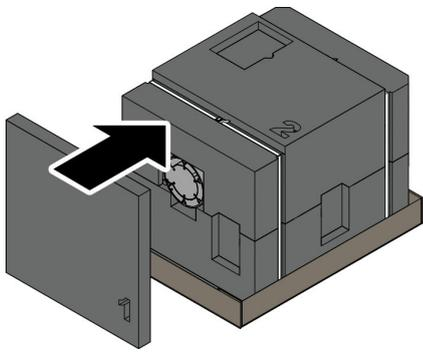

Fig. 99 Inserting packaging part 1
11. Close the robot box with packaging part 1 Fig. 99.